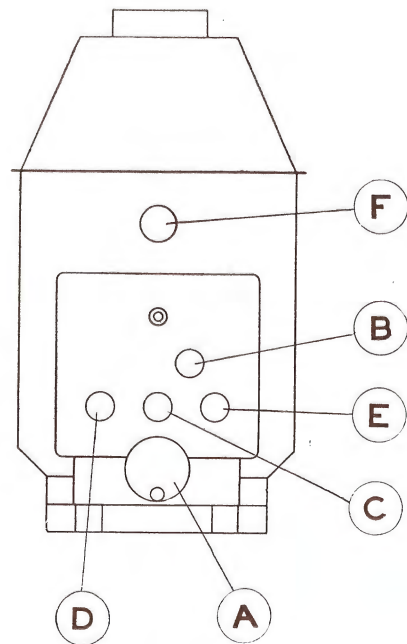

Fig. 3
**A. Carbon Feed.**—This consists of a handwheel (H) on each side at the front of the lamphouse (Fig. 1) and a handwheel (A) at the back (Fig. 3) which may be pulled out to disengage the drive between front and rear carbons, so that they may be adjusted independently. When the drive between carbons is disconnected, the front carbon is controlled by the front handwheels, and the rear carbon by the rear handwheel.
**C.** This is a screw motion operated by a knurled moulded handwheel (Fig. 3) and permits raising and lowering of the rear carbon. A return spring prevents any shake or backlash.
**D. and E. Mirror Adjustment (Fig. 3).**—**D.** Horizontal axial motion is transmitted by means of hand wheel operated screwed shaft.
**F. Inspection Lamp Control (Fig. 3).**—Consisting of 5-amp. tumbler switch.